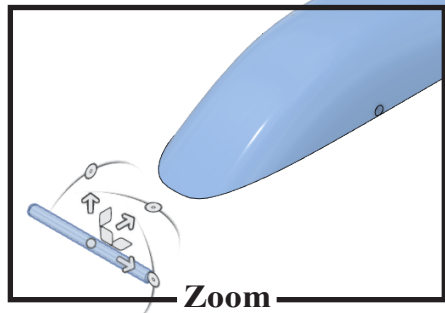
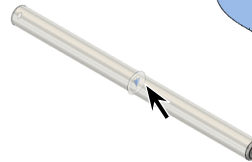

Fig. 6
Fig. 7
Step 4. Zoom in on the Axle and axle hole in body, Fig. 6.
Step 5. On the Solid tab **SOLID** click **Joint**  (J) in the Assembly area of toolbar.
Step 6. Click **centerline/midpoint**  on the Axle for the first component selection and **centerline/midpoint**  on front axle hole in Body second component selection, Fig. 7.